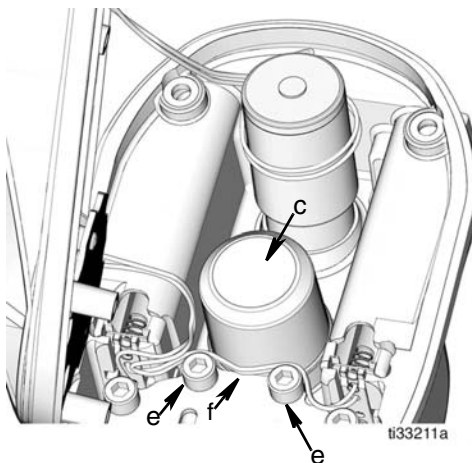

FIG. 8
- Route black and white wire (f) between the central valve boss (c) and gear cover screws (e) (FIG. 8).